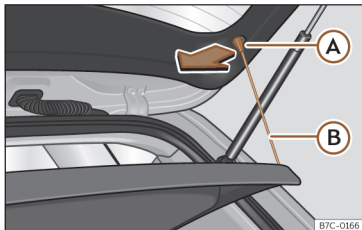

Fig. 173 In the boot: removing and installing the shelf.
- Detach the cord loops >>> **Fig. 173 (B)** from their hooks **(A)**.
- Attach the securing straps >>> **Fig. 173 (B)** onto the rear lid.